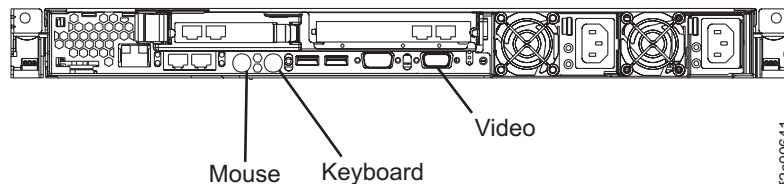

Figure 74. X336 management console keyboard/mouse/video ports
9. If you are installing an x336 server, route and then connect the three cables from the keyboard, mouse, and monitor into the appropriate connectors on the rear of the x-server. See Figure 74.